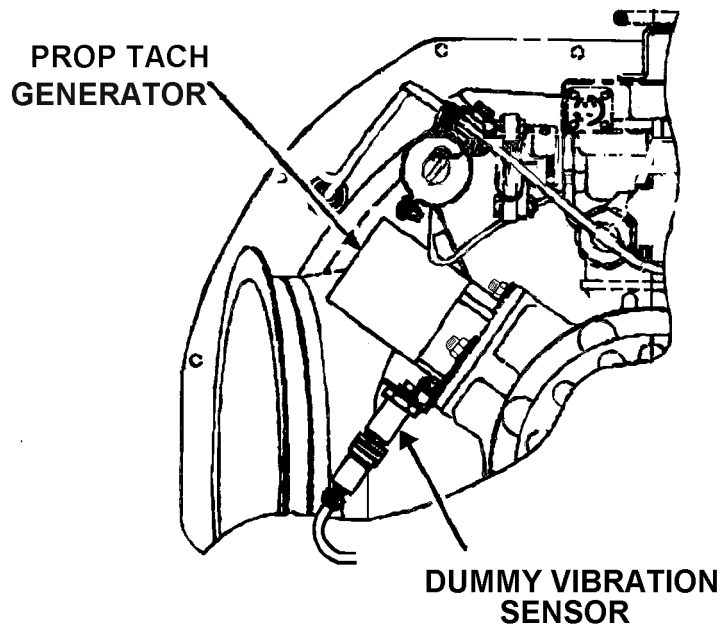

Figure 1. (Engine as viewed from forward looking aft (FLA))
- b. Disconnect the cable from the dummy sensor connector on the bracket shown in figure 1.
- d. Replace the dummy vibration sensor with the 7310 vibration sensor, item 3. Install the sensor on the bracket provided on the tach generator pad as shown in figure 1.
- e. Connect the cable, previously disconnected from the dummy sensor, to the connector of the 7310 sensor, item 3.
- h. Connect the Beech Interface cable, item 2, to the receptacle for propeller balance located in the side wall behind the copilot's seat.
- i. Connect the left engine leads (labeled LEFT VIBRATION and LEFT TACH ) from the interface cable, item 2, to CHANNEL A and LEFT TACH. Connect the right engine leads (labeled RIGHT VIBRATION and RIGHT TACH) to CHANNEL B and TACH 2.